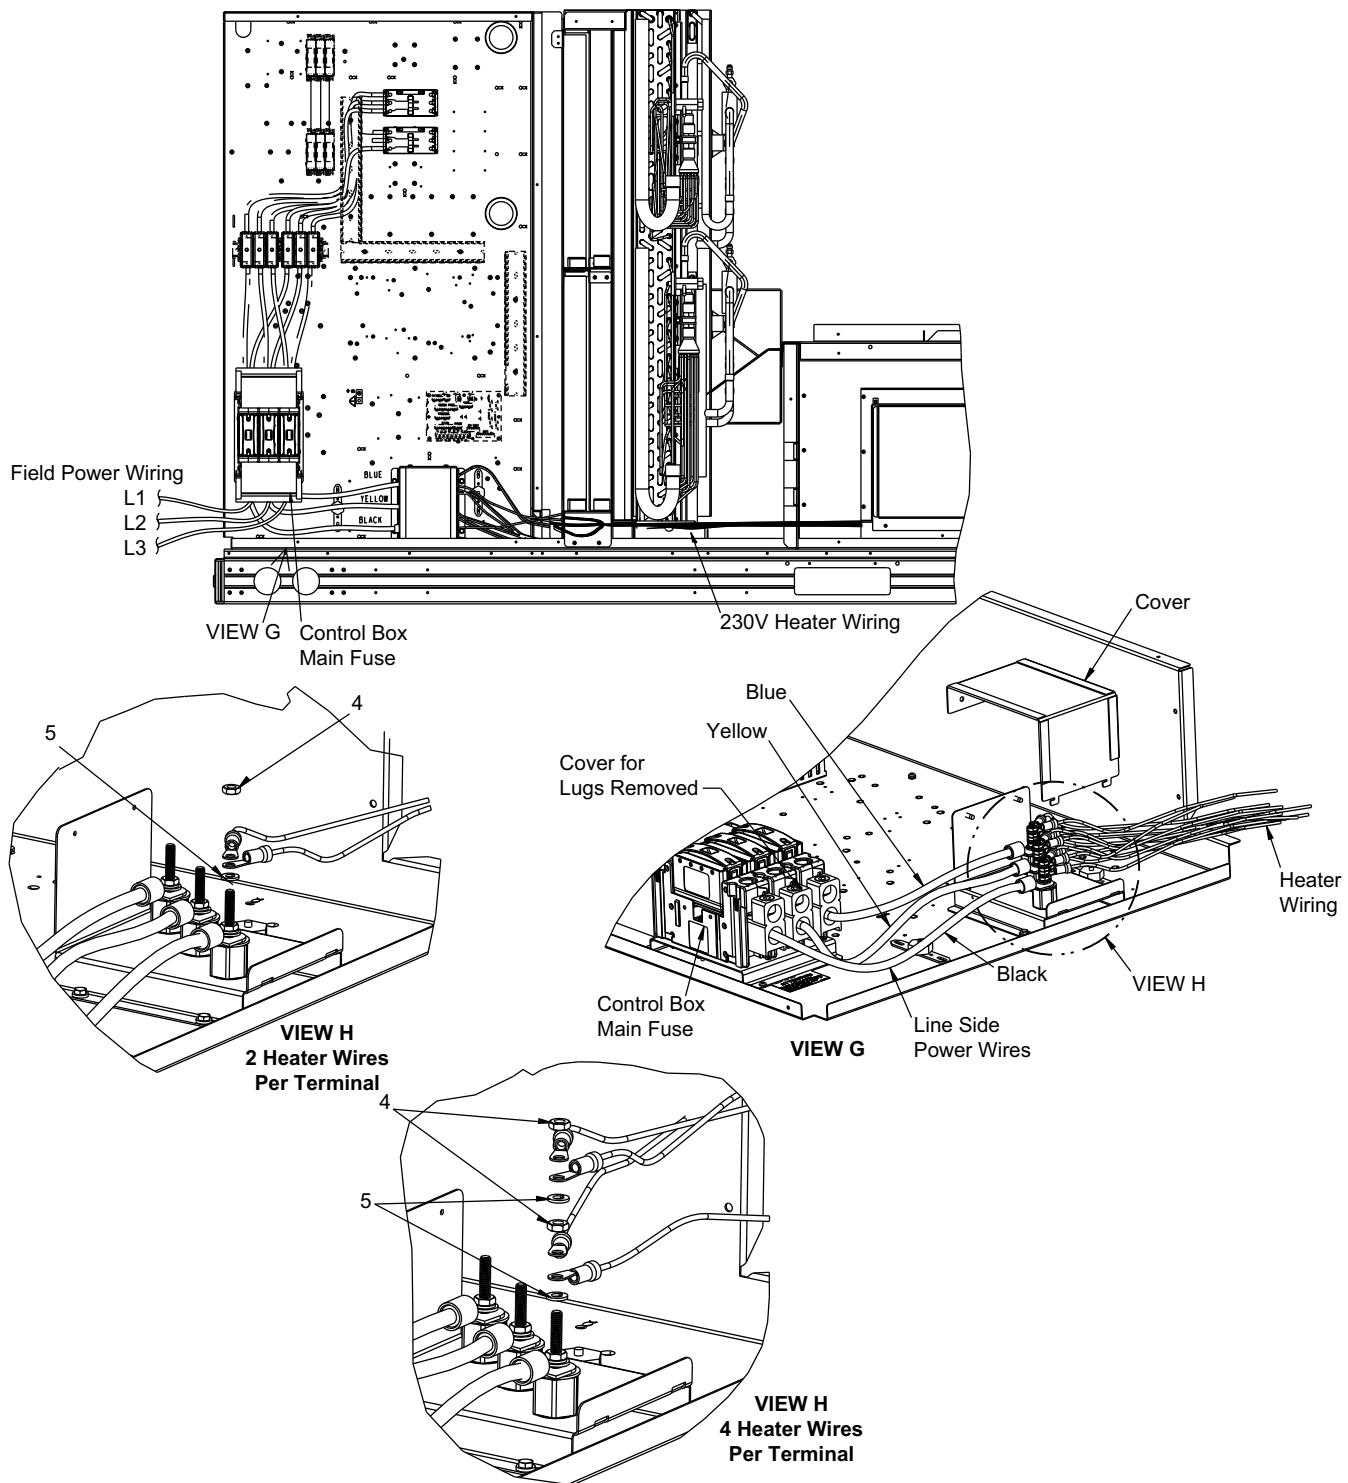

Fig. 45 — 230V Single Point Power Assembly Location (High SCCR)
1. Install terminal block assembly in location shown in Fig. 45.
For 4 wire/leg assembly: add lock washers (Item 5), turn bottom two wires so barrel of terminal is down as shown in Fig. 45. Add nut (Item 4) and tighten to 9-10 Nm (79-88 in.-lb). Add second lock washer (Item 5), the top two wires shall be installed with barrels “up.” Add second nut (Item 4) and tighten to 9-10 Nm (79-88 in.-lb).